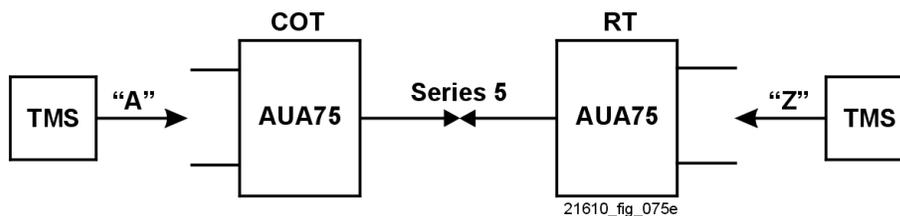

Figure 4. Test Arrangement For Transmission Measurements
- Step 8. At the COT and RT, connect a TMS (Transmission Measuring Set) to the T/R faceplate jack on the AUA75() for the circuit being turned up (Figure 4).